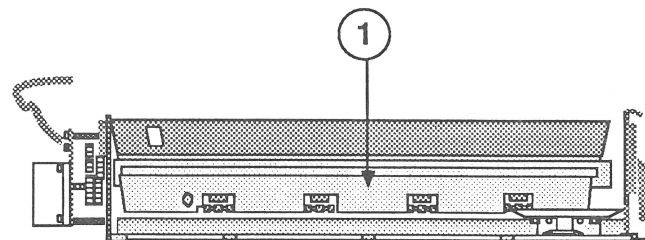

FIGURE 21
2. Simultaneously lift and flip back the paper guide plate (Figure 21, #1) to expose the pinch roller assembly.